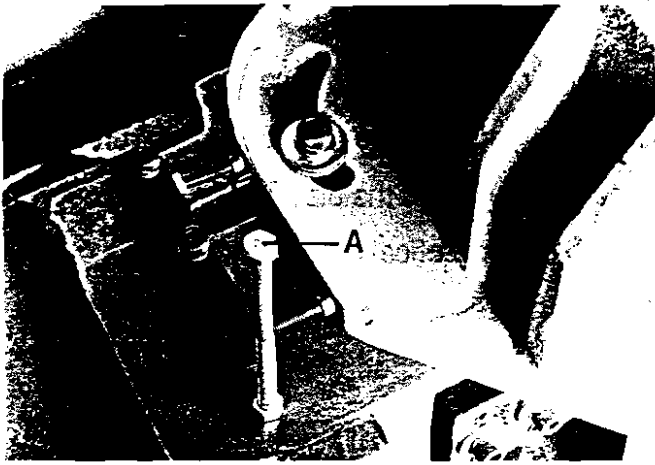

FIG. 3
The machine and any accessories which are wired into electrical system are controlled by the start-stop buttons. The machine will automatically shut off when the cut is completed. The lever for the automatic shut-off contacts the top of the bolt (B) Fig.3 and shuts off the machine. The bolt (B) is adjustable for desired height.